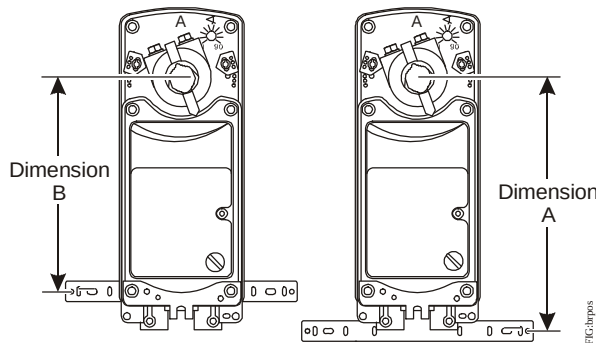

Figure 5: Positioning the Anti-rotation Bracket (See Table 2.)
1. See the dimensions in Figure 5 and Table 2 to ensure the correct positioning of the anti-rotation bracket.
3. Drill mounting holes in the damper frame or duct using the anti-rotation bracket as a guide (based on the measurements obtained in Table 2 and Figure 5).